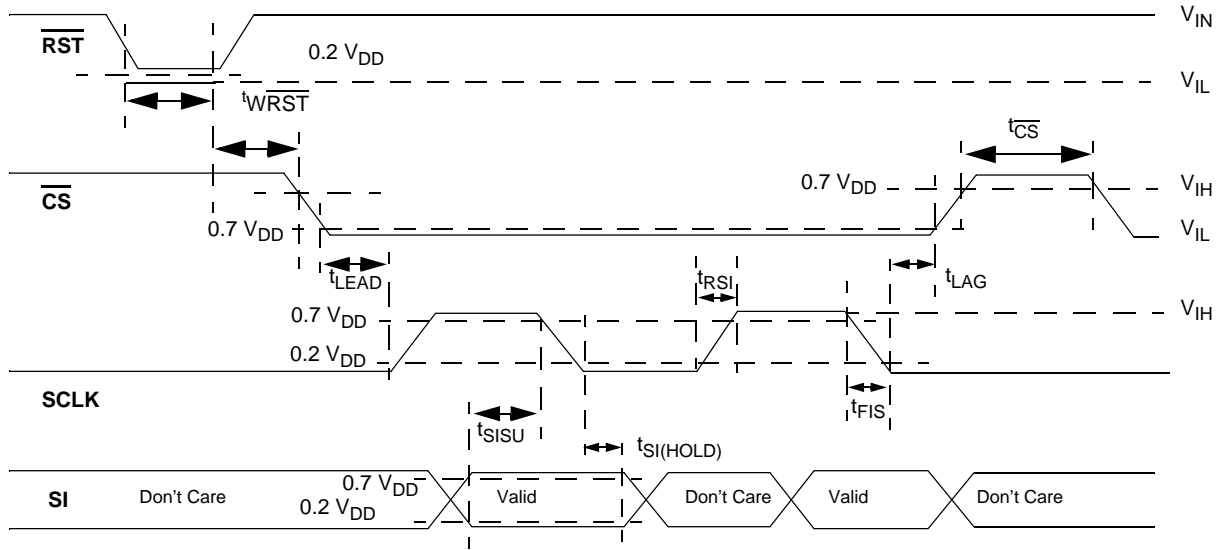

Figure 4. Input Timing Switching Characteristics
- The 33977 shall meet all SPI interface timing requirements specified in the SPI Interface Timing section of this table, over the specified temperature range. Digital interface timing is based on a symmetrical 50 percent duty cycle SCLK Clock Period of 33 ns. The device shall be fully functional for slower clock speeds. Reference Figure 4 and 5.